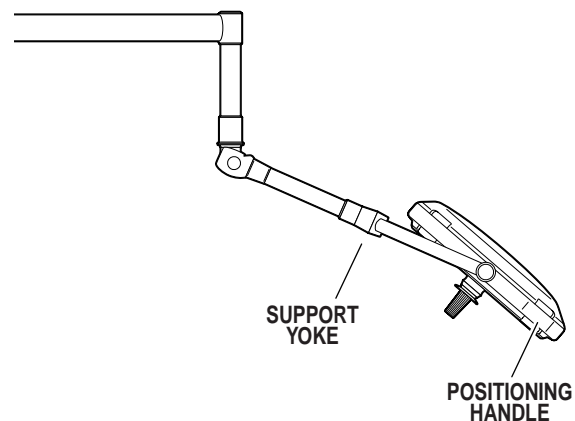

Figure 6.
1. Grasp the positioning handles on the lighthead and pull the lighthead down to shoulder height. Keep the lighthead at approximately a 45° angle to easily position the support yoke. See figure 6.